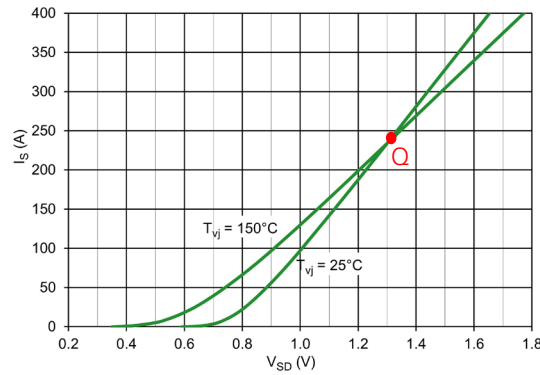

Figure 28. Typical Forward Characteristics of a Reverse Diode
Typical Forward Characteristics of a Reverse Diode plotted against various temperatures are presented in **Figure 28**. This curve aids in comprehending the diode’s conduction behavior and its forward voltage drop characteristics. It clearly demonstrates the negative temperature coefficient of diode forward voltage V_{SD} in the low-current region. As a result, it is anticipated that the diode forward voltage will decrease as the temperature increases. In the high-current region that is above the cross-over point (Q), the diode forward voltage will increase as the temperature increases.